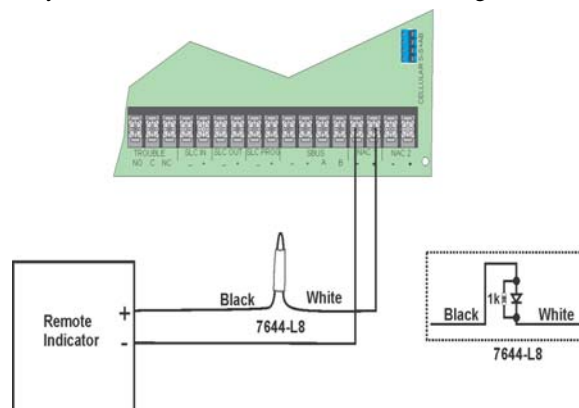

Figure 4.52 Polarity Reversal Connection Using the 7644-L8
- Wiring the 7644-L8 to the control panel as shown in Figure 4.52. Do not install an EOL resistor on the terminals of the NAC circuit used.